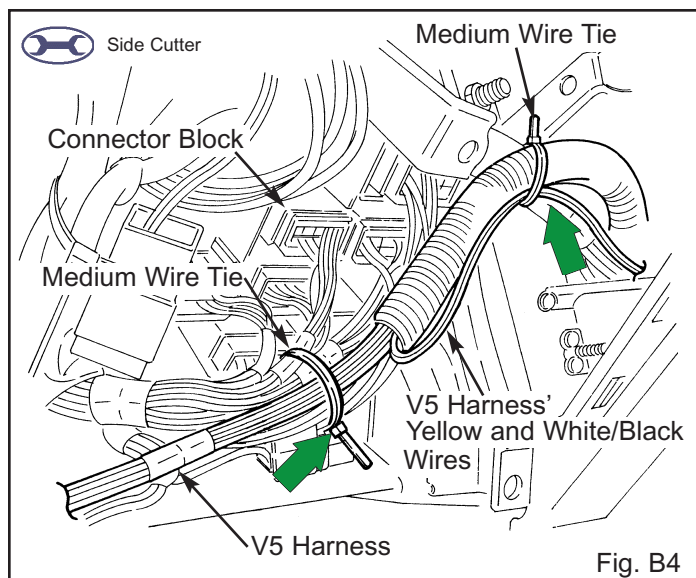

Fig. B4
7. Route the V5 harness toward the center console area, then secure it to the vehicle harness with two medium wire ties. (Fig. B4)